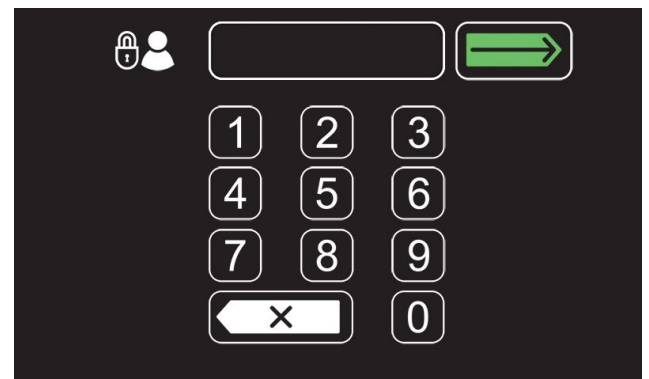

FIG. 175
- To enable the login screen at start up (Figure 175), see Enabling the Login.